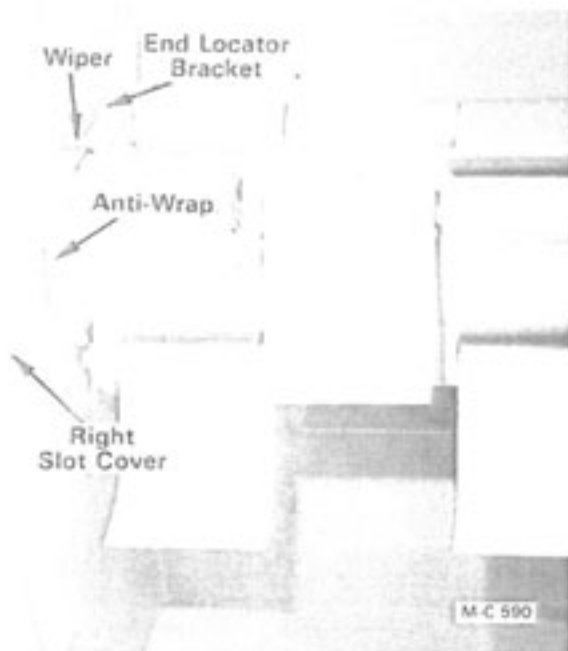

Figure 20 - Front View
- B. Turn the rotor and line up the rotor hanger bar in the center of the slot in the right side of the body, see Figure 20. Block the rotor in this position.